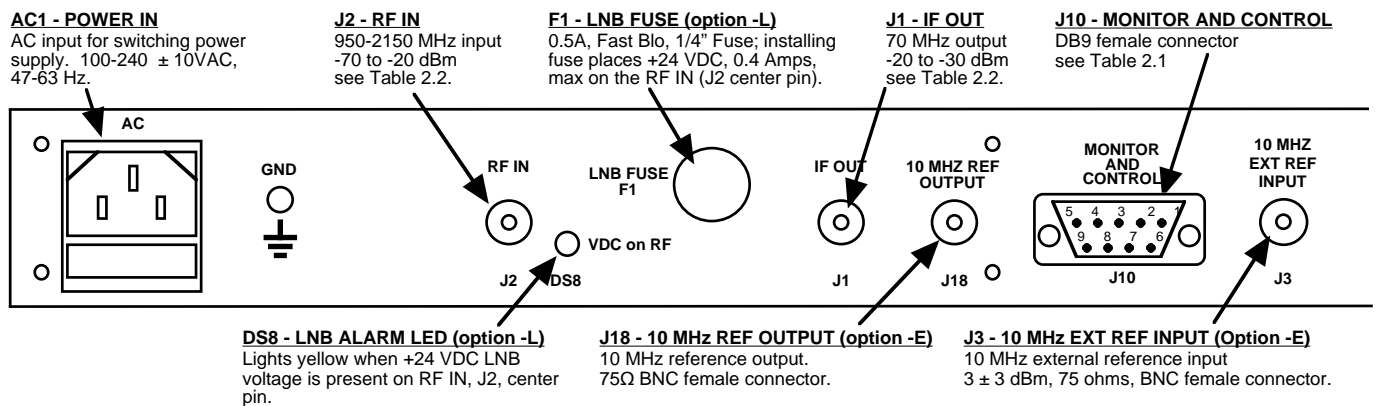

FIGURE 2.2 2016-02 (CE) Rear Panel I/Os
Figure 2.2 shows the input and output connectors on the rear panel.
1. Connect a -20 dBm to -70 dBm signal to RF IN, J2 (Figure 2.2)